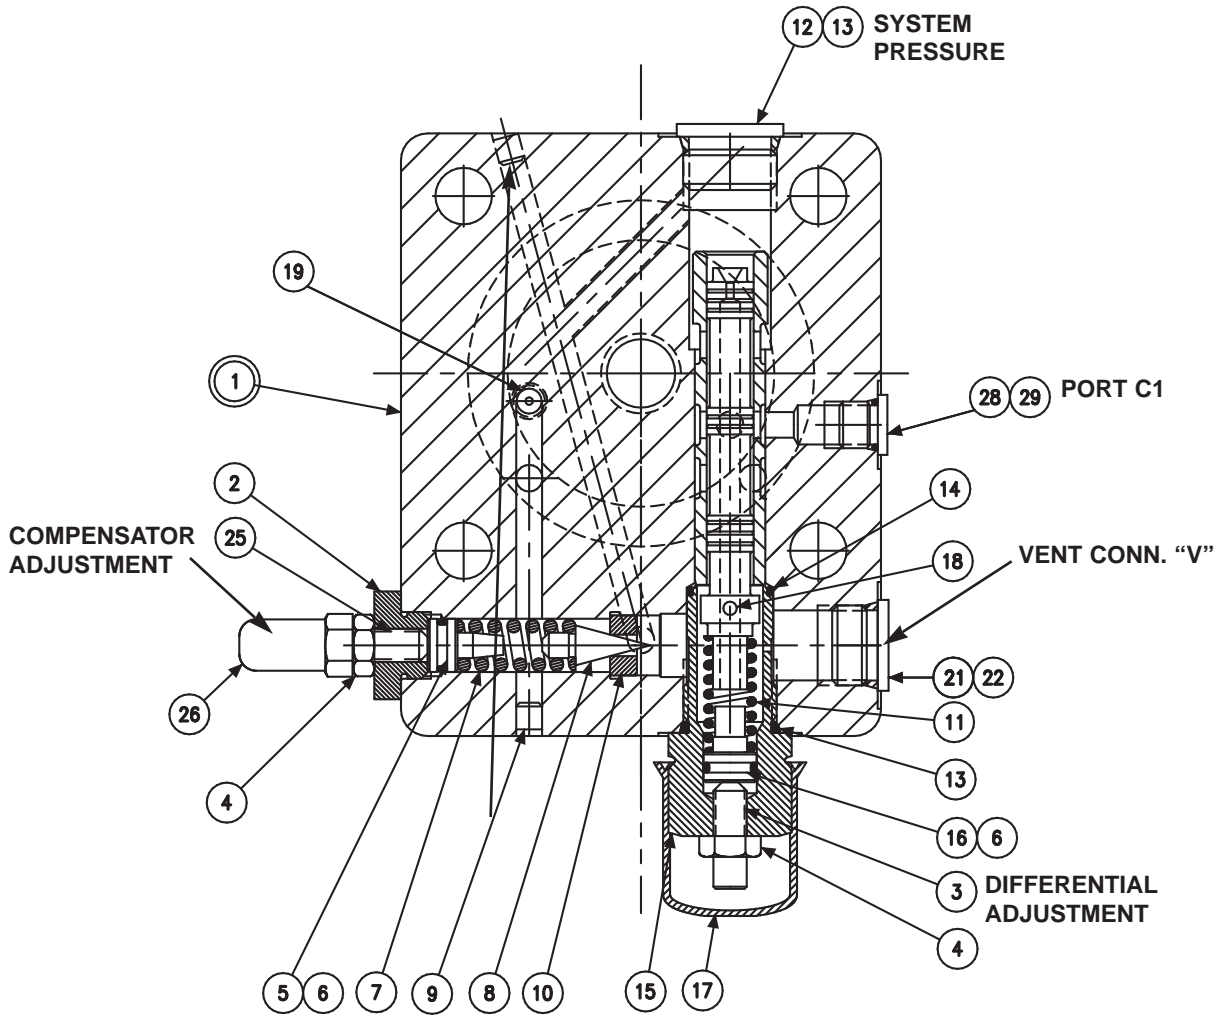

FIGURE 6
| 2 | *Compensator Control (Fig. 6) | S22-15311 | S22-15312 | 1 | - |
1. **See Figure 6.** Back off max. volume screw or handwheel to full displacement. Remove max. volume screw or hand wheel assembly.
3. Remove plug (15) and attached parts. Remove spring (11) and spool (18).
4. Remove adjusting plug (2) and attached parts. Remove seal piston (5). Note: a 10-24 screw may be used to assist in pulling the piston. Remove spring (7) and cone (8).
5. Do not remove sleeve in body (1). Sleeve is pressed into cap and finished to size. If sleeve or cap is worn, replace the cap-sleeve assembly (1).
6. Examine seat (10) for wear. Do not remove unless damaged.
PARTS LIST FOR FIGURE 6